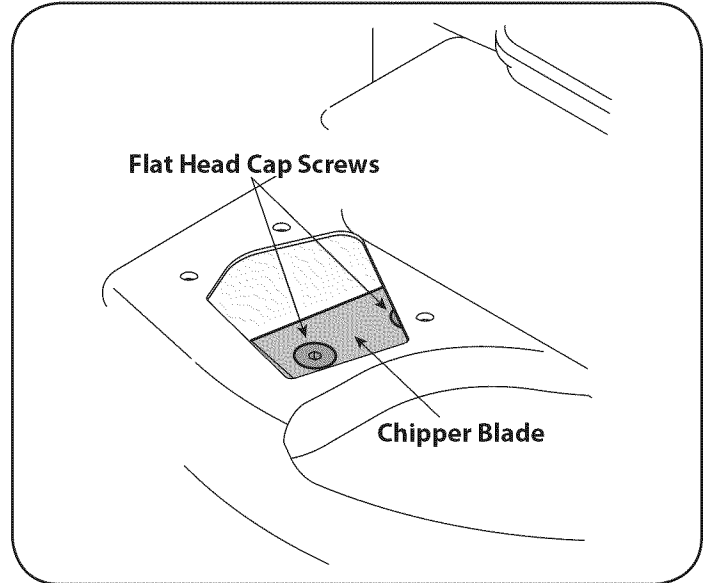

Figure 30
- Using a 3/16" allen wrench, remove the flat head cap screws that hold the chipper blade to the impeller. These screws are accessible through the opening created when the chipper chute was removed earlier. See Figure 30.